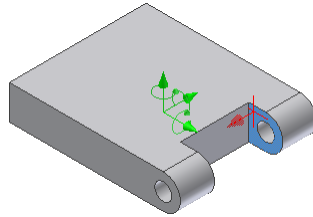

Figure 1.3
5. Select the face of the groove on Plate 2:1 as shown in Figure 1.3.